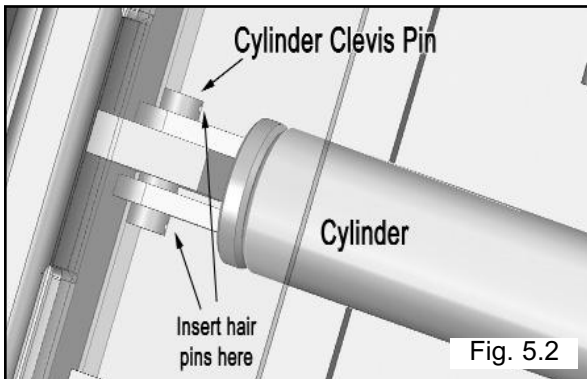

Fig. 5.2
2. Install cylinder and cable block as shown. (See Fig. 5.2 & 5.3)